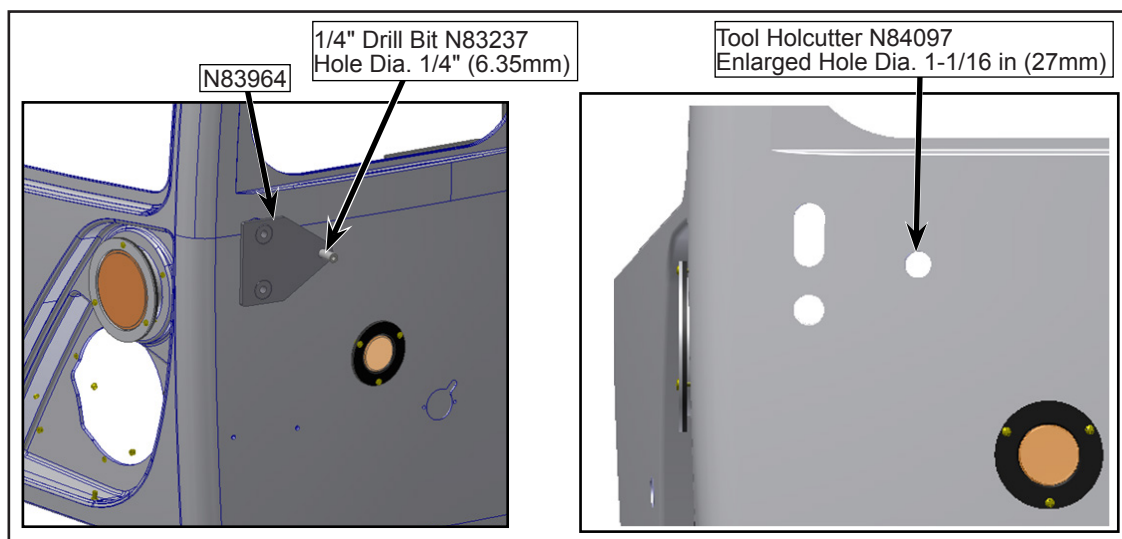

Figure 10 - Drilling Holes to Respective Diameters
- 1.10. Drill a hole using tool N83237 and enlarge the slot using the N84097 tool holcutter. (see Figure 10).